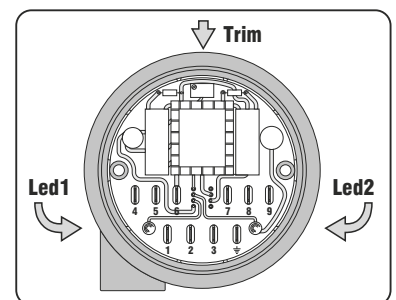

Fig.1
The sensitivity regulation trimmer (Fig. 1) allow the response of the sensor to be adapted to the characteristic of the material to be checked. Turn clockwise to increase and counterclockwise to decrease the sensitivity.
Led 1 and Led 2 on the power and wiring printed circuit board (Fig.1) indicate the commutation of the output contacts of the relays.
**CAUTION :** In the terminal board compartment, the connection for Faston type cable terminal whose position is marked by the symbol ⊕ on the printed circuit (Fig. 1) is used for the earthing of the level gauge. The yellow-green conductor (only green for the USA) of the power cable must be connected to this terminal.